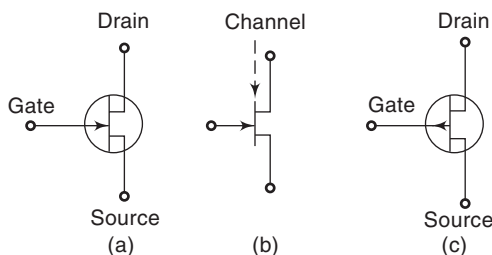

Fig. 7.43
- (a) Figure 7.43(a) shows the schematic symbol of a JFET. The thin vertical line in Figure 7.43(b) is the channel. The source and drain connect to this line. The gate arrow points towards the *n*-material and away from the *p*-material. A *p*-channel JFET is the complement of an *n*-channel JFET.